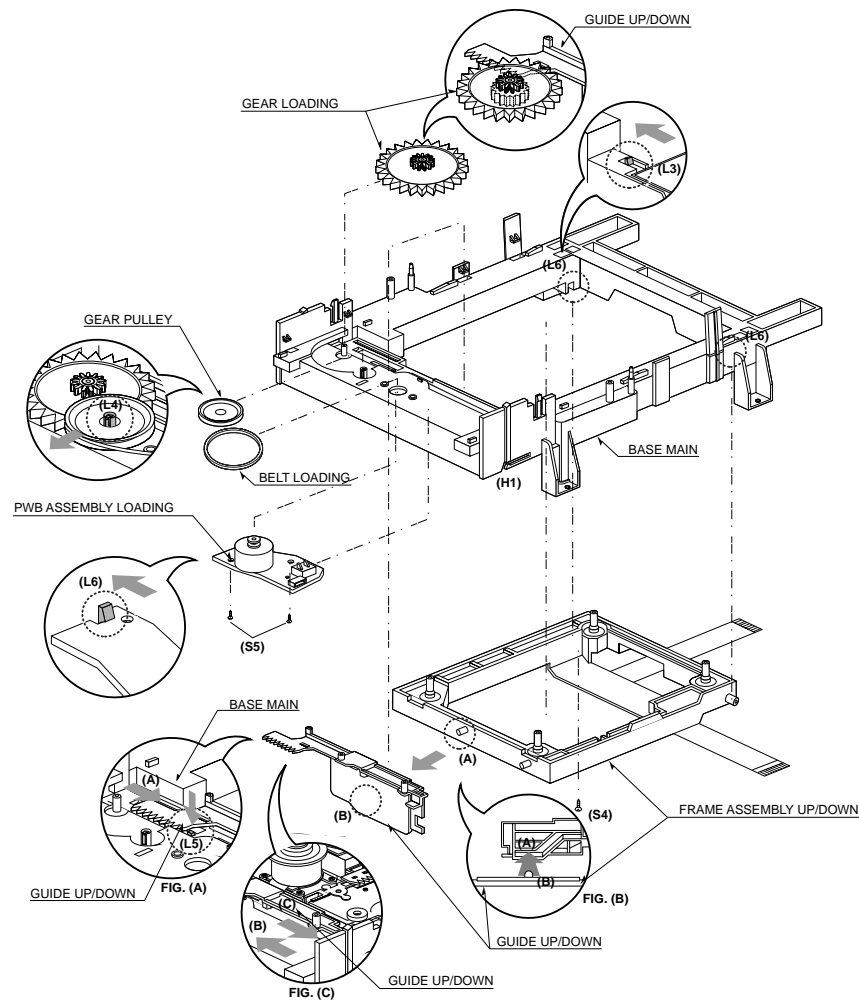

Fig. 4-4
- When reassembling move the Guide Up/Down in direction of arrow(C) until it is positioned as Fig.(C).
- When reassembling insert (A) portion of the Frame Assembly Up/Down in the (B) portion of the Guide Up/Down as Fig.(B)
6. Belt Loading(Fig. 4-4)
7. Gear pulley (Fig. 4-4)
- 1) Unlock the Locking Tab(L4) in direction of arrow(B) and then separate the Gear Pulley from the Base Main.
8. Gear Loading (Fig. 4-4)
9. Guide Up/Down (Fig. 4-4)
11. Base Main(Fig. 4-4)